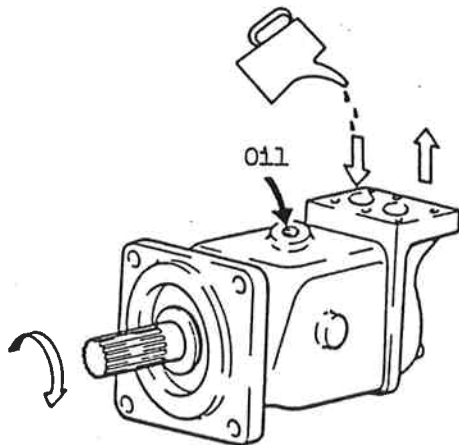

Fig.13 Supply of Hydraulic Oil
- 14) Insert brake piston (36) into valve cover (14). Insert brake spring (39) into brake piston (36), and install brake cover (35) on valve cover (14) with capscrews (19).
- 15) Now, assembly of the motor is completed. Supply clean hydraulic oil to the suction port and piston shoe side, and confirm that the drive shaft is turned smoothly by hand (see Figure 13).